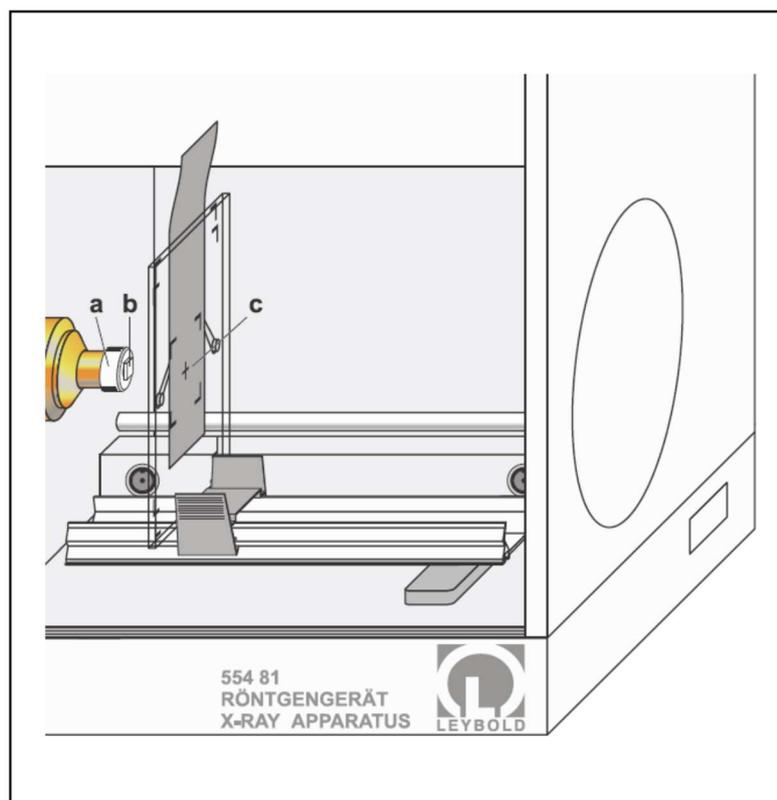

Figure 4 Experimental setup for Laue Diagram measurement (a: pinhole diaphragm; b: crystal; c: x-ray film)
- The experimental setup is illustrated in Figure 4. The preparation of the film and the positioning of the x-ray film holder may require temporary removal of the goniometer. **This should be supervised by a demonstrator.**
- Please consult a demonstrator for assistance with the mounting of the pinhole aperture and the mounting of the differing set of NaCl (and LiF) crystals on the pinhole aperture. (1) Carefully attach the NaCl/LiF crystal (b in Figure 4) to the pinhole diaphragm (a in Figure 4) (from the scope of supply of the X-ray film holder) with transparent adhesive tape. (2) Attach the collimator, and cautiously turn it so that the outside edges of the crystal are aligned as horizontally (or vertically) as possible.
- Clamp the X-ray film (c in Figure 4) at the film holder so that it is centred, and see to it that the entire surface of the film is planar. Clamp the film holder onto the experiment rail, and mount the experiment rail in the experiment chamber of the X-ray apparatus.